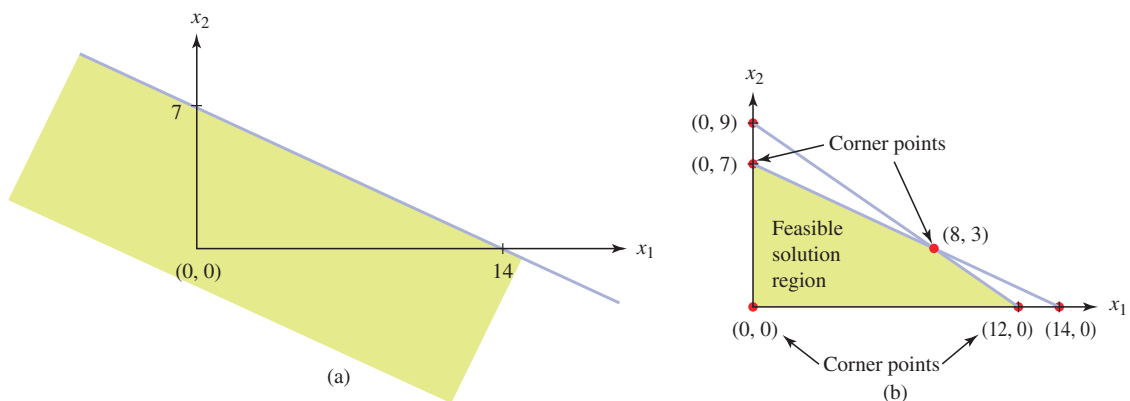

FIGURE 3.4
Let us first review how you would plot the regions given by the inequalities. For example, to plot the region as given by the linear inequality $120x_1 + 240x_2 \leq 1680$, we must first plot the line $120x_1 + 240x_2 = 1680$ and then determine which side of the line represents the inequality region. For example, after plotting the line $120x_1 + 240x_2 = 1680$, we can test points $x_1 = 0$ and $x_2 = 0$ to see if they fall inside the inequality region; because substitution of these points into the inequality satisfies the inequality, that is, $(120)(0) + (240)(0) \leq 1680$, the shaded region represents the given inequality (see Figure 3.4(a)). Note that if we were to substitute a set of points outside the region, such as $x_1 = 15$ and $x_2 = 0$, into the inequality, we would find that the inequality is not satisfied. The inequalities (3.2) through (3.5) are plotted in Figure 3.4(b).
The shaded region shown in Figure 3.4(b) is called a *feasible solution region*. Every point within this region satisfies the constraints. However, our goal is to maximize the objective function given by Equation (3.1). Therefore, we need to move the objective function over the feasible region and determine where its value is maximized. It can be shown that the maximum value of the objective function will occur at one of the corner points of the feasible region. By evaluating the objective function at the corner points of the feasible region, we see that the maximum value occurs at $x_1 = 8$ and $x_2 = 3$. This evaluation is shown in Table 3.3.